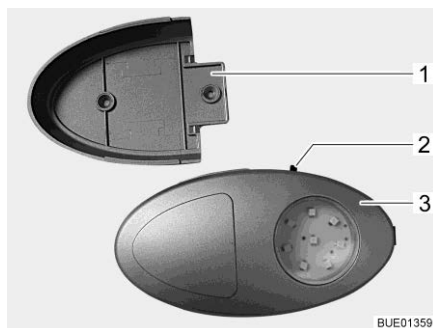

Fig. 86 Wardrobe light/torch
- ▷ The wardrobe light can be removed from its holder (Fig. 86,1) and used as a torch.
The On/Off switch (Fig. 86,2) is located directly on the wardrobe light (Fig. 86,3).